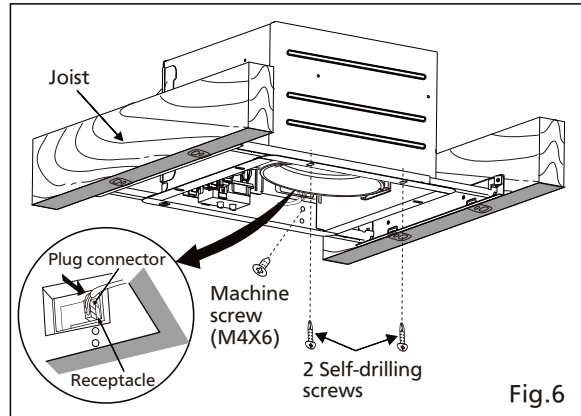

Fig.6
8. Insert fan body and slide into adapter assy with some strength, until the flange overlaps the Flex-Z Fast™ bracket. Secure the fan body to Flex-Z Fast™ bracket by using 2 self-drilling screws, plug connector to receptacle and secure the fan body to adaptor by using machine screw (M4X6). (Fig.6)